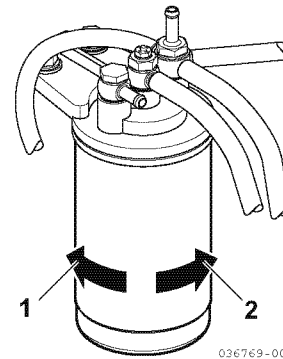

Figure 5-11
3. Remove the fuel filter with a filter wrench, turning it to the left (1, **Figure 5-11**).
5. Install the new fuel filter. Turn to the right (2, **Figure 5-11**) and hand-tighten it only until it comes in contact with the mounting surface. Tighten to 20 - 24 N·m (2.0 - 2.4 kgf·m) or one additional turn using the filter wrench.